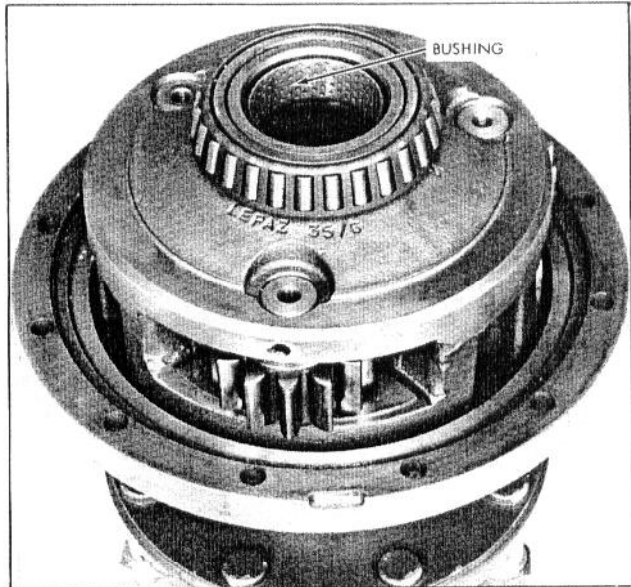

Fig. 34 - Axle Planetary Assembly
12. Remove the carrier bushing if inspection shows it is excessively worn. Refer to Fig. 34.